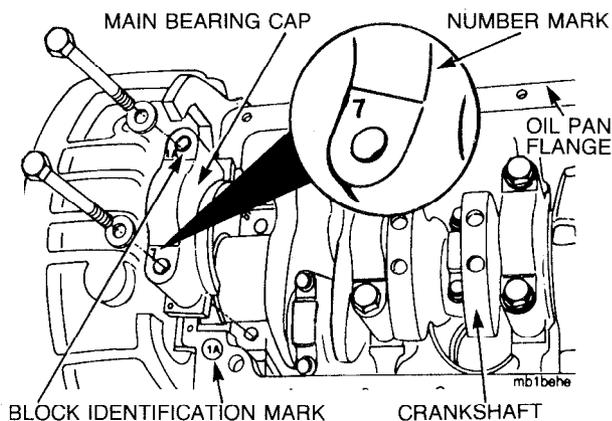

Figure 16 — Main Bearing Cap Identification
- aq. Straighten the locking tabs on the main bearing caps, then loosen the bolts approximately 25 mm. Check to ensure that the main bearing caps are stamped on the camshaft side with the correct location number (see Fig. 16).